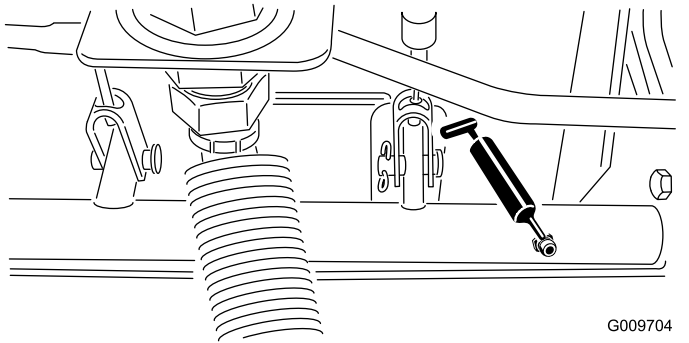

Figure 81
- Brake-shaft pivot bearings (5) as shown in Figure 81